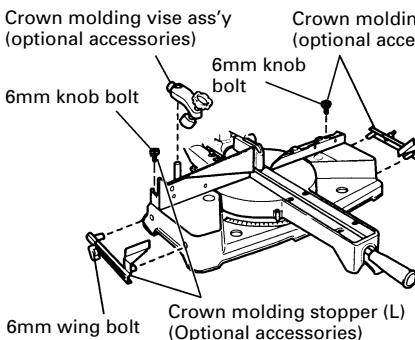

Fig. 47-a
- (1) Crown molding Stopper (L) and (R) (optional accessories) allow easier cuts of crown molding without tilting the saw blade. Install them in the base both-sides side to be shown in Fig. 47-a. After inserting Tighten the 6mm knob bolts to secure the crown molding Stoppers. [Optional accessories used]
- Crown molding Vise Ass'y (Include Crown molding Stopper (L))
- Crown molding Stopper (L)
- Crown molding Stopper (R)
- (2) The crown molding vise (B) (Optional accessory) can be mounted on either the left fence (Fence (B)) or the right fence (Fence (A)). It can unite with the slope of the crown molding and vice can be pressed down.